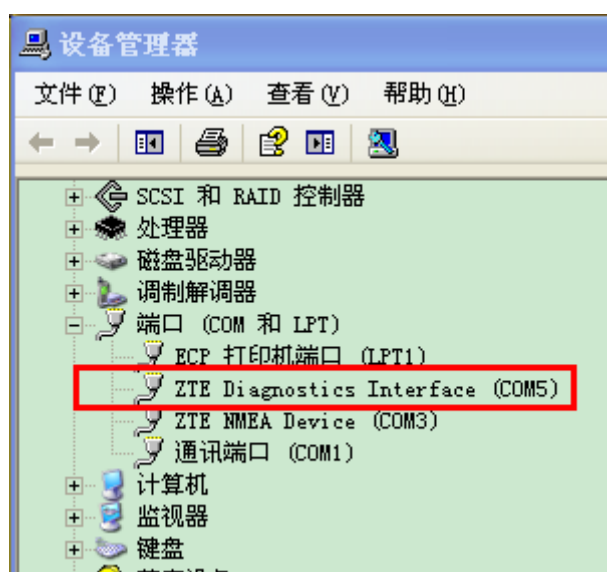

Figure 2 Port Number
2. Input DIAG port number, when wireless module connected to the computer, you can see the DIAG port number in "Device Manager", as shown in Figure 2(in this case, the DIAG port number is 5, name of the DIAG port include string "diag", it may different from the name shown in Figure 2)
**Our computer's language is Chinese, so there were many Chinese characters in Figure 2, begging your pardon!